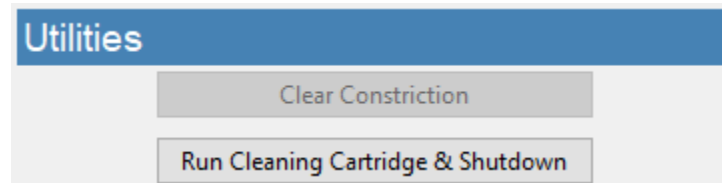

Figure 8. Utilities frame.
- Press the “Clear Constriction” button (Figure 8) and wait for the routine to complete.
- Press the “Run Cleaning Cartridge & Shutdown” button (Figure 8) to begin the automated process.